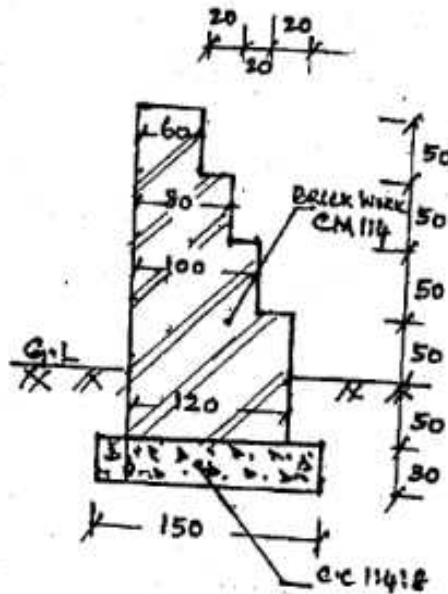

Fig. 2
- (b) The sketch given in Fig. 2 shows the cross section of the retaining wall. Find out for 20 m length of this wall the following:
- (i) Cement concrete 1:4:8 (8)